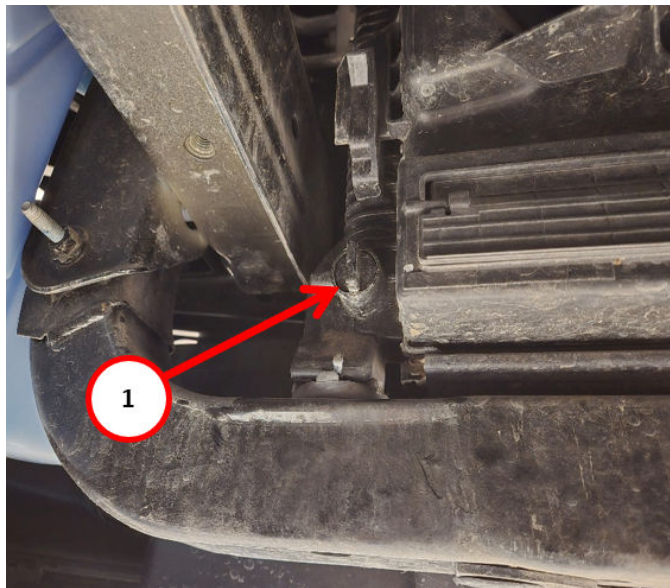

Fig. 1
3. Close the radiator draincock Fig. 1.